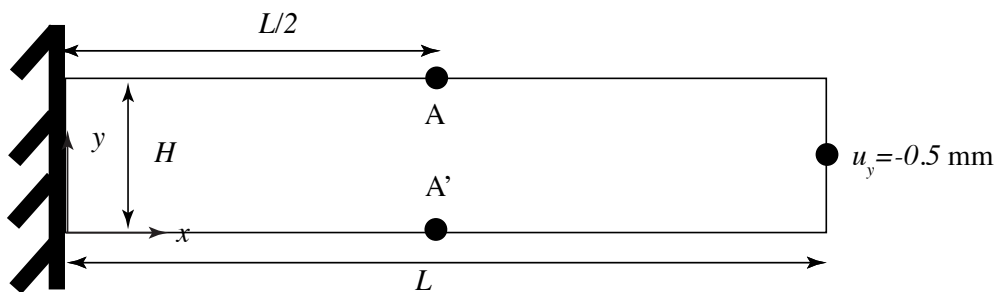

Figure 1: Cantilever beam
Apply the program to solve for the displacements of a cantilever beam bending problem loaded under gravity and a fixed displacement applied at $x = L$ and $y = H/2$ (Fig. 1) for different element sizes h and element types, bilinear vs. biquadratic (8 node and 9 node). The dimensions of the beam are $L = 12\text{mm}$, $H = 1\text{mm}$, $B = 1\text{mm}$. You will be analyzing beams of 2 different materials: 1) aluminum (Al) and polyurethane (PU). Write a report that includes the following items.
- (c) Calculate the error in the nodal displacement and nodal stresses at point A (Fig. 1) compared to the analytical results from Euler-Bernoulli Beam theory. Similarly pick an integration point closest to node A and calculate the error in the integration point stresses. Plot the log error vs the log of a characteristic element size. Compare between the two different element types and the effects of under integration for the higher order elements. Comment on your results.